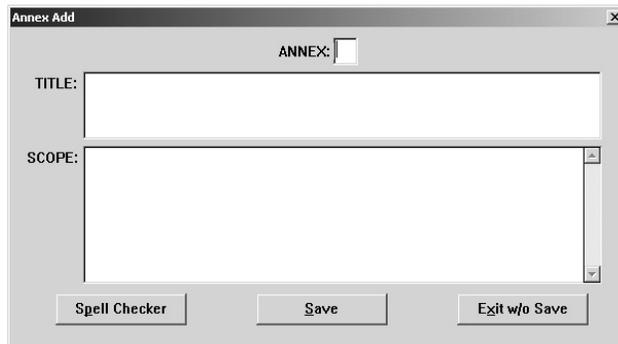

Figure 6-22. Annex Add
- From the Annex Maintenance selection list box (Figure 6-21), click on **Add**. The Annex Add dialog box (Figure 6-22) opens.
2. Click on **Edit**. A dialog box similar to the one in Figure 6-22 opens.